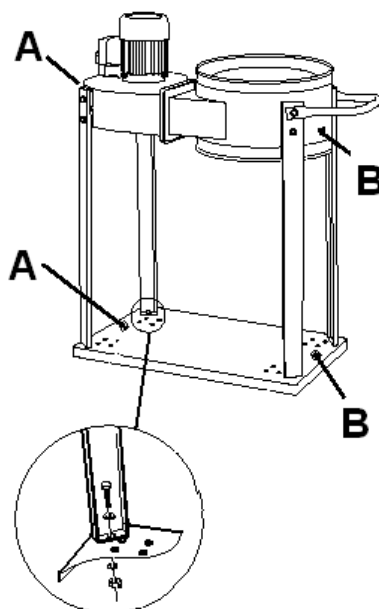

Fig 6
Locate the motor side (A, Fig 6) and the bag side (B) of the base.